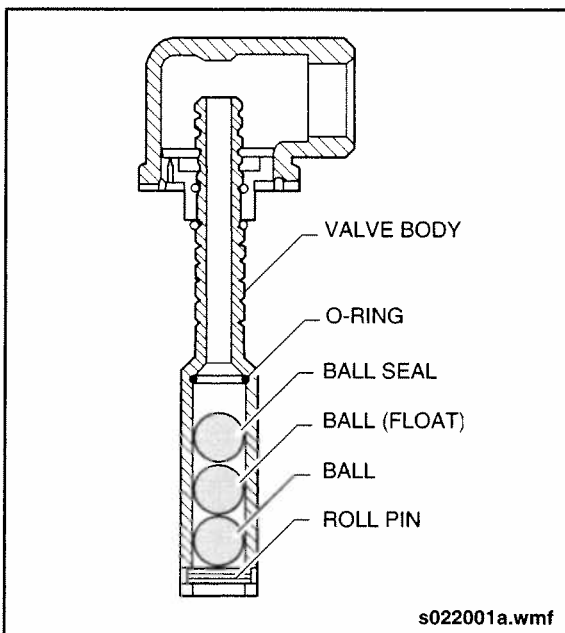

Fig. 7-4: Level Control Valve
5. Clean the whistle valve in a suitable solvent. Replace the internal spring in the valve if necessary. Make sure to place the seal, float, and ball in proper positions. See "Fig. 7-4: Level Control Valve" on page 8.